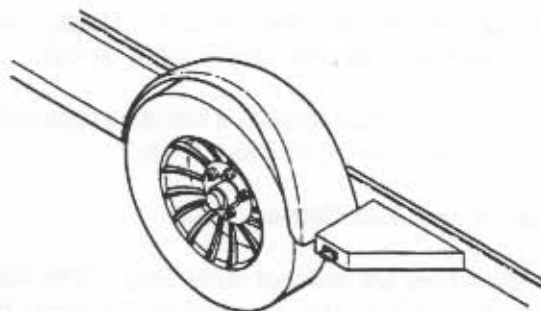

Figure P5: Mag Wheel
On the Surge Brake Actuator and Coupling Assembly shown in Figure P5, lift the release handle to unlock the coupler. The optional locking pin or a padlock may be inserted in the locking lever hole to secure the trailer. Refer to Section P-3 Operation for additional information on couplers and hitching to the tow vehicle.
2. Move the lever knob on the side of the actuator downward from the "Towing Position" along the curved slot in the actuator frame to the "Back-up Position". Refer to Figure P5. The slot has a notch at the bottom of its travel. Push the lever knob down to engage the locking notch.